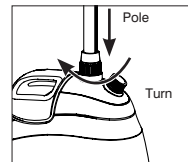

Figure 1
2. Insert pole into top of unit. Match the grooves on the pole with the notches in the pole connector and push down. Securely tighten the nut on the pole over the connector by turning it clockwise (Fig 1).